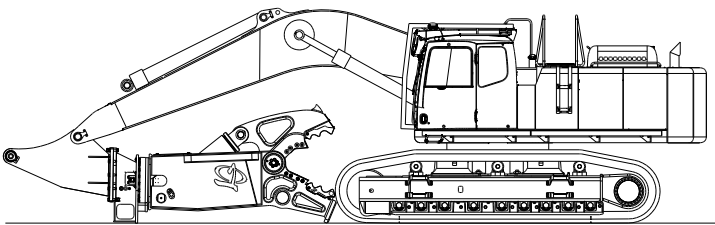

Figure 3-7
1. Curl the attachment under the boom of the excavator as far as the stick cylinder will extend and lower attachment and lower attachment to the ground (see Figure 3-7).